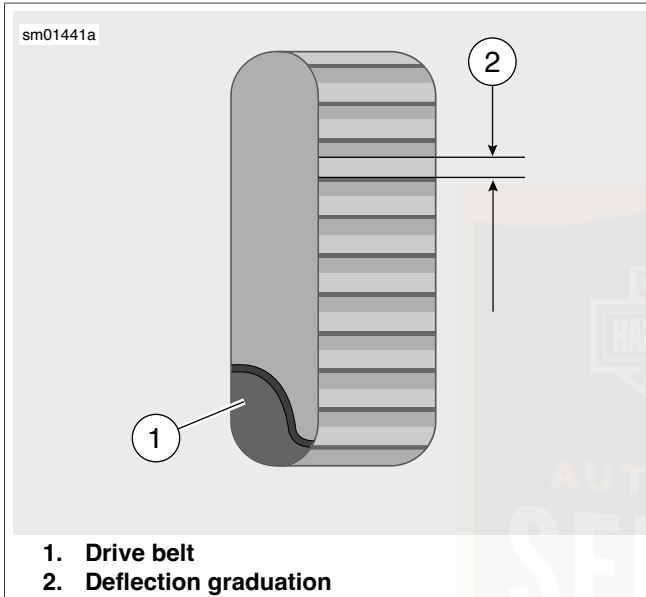

Figure 53. Belt Deflection Window
- b. **All other models:** See Figure 53. Measure amount of deflection (4) while holding gauge steady.